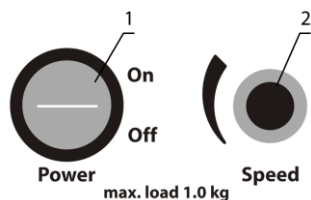

Figure 2. 3D, control panel
- 5.1.3 Switch on the **Power** switch (fig. 2/1).
- 5.1.4 Use the speed control knob (fig. 2/2) to adjust the shaking speed to the required setting.